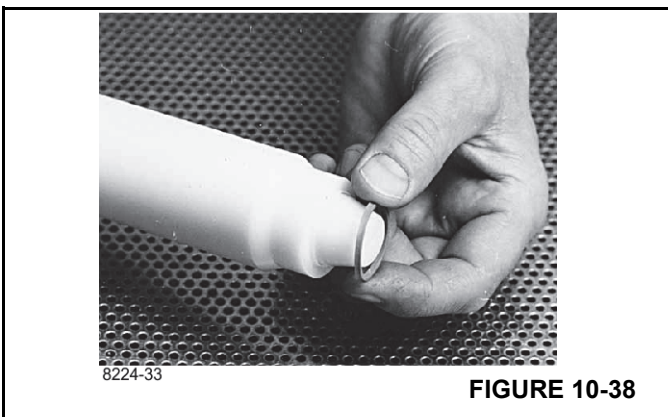

FIGURE 10-38
- 12. Lubricate the lip seal with hydraulic oil and place it on the assembly tool (Figure 10-38).